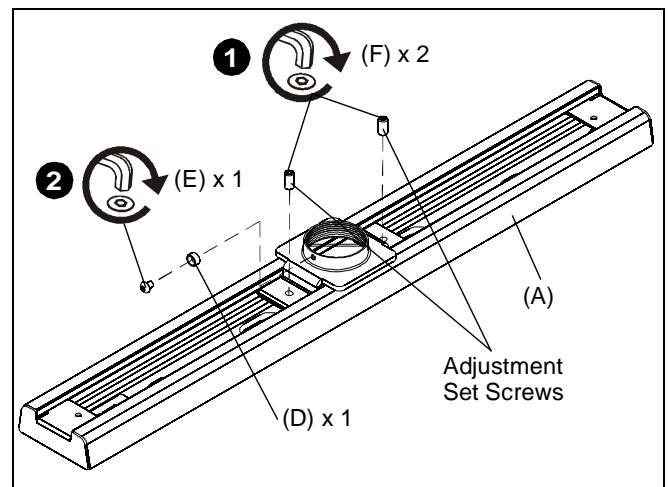

Figure 4
1. For increased security, remove two set screws from ceiling plate and replace with two 5/16-18 x 5/8" security set screws (F). Tighten with 5/32" security hex wrench (H). (See Figure 4)
2. For additional security, remove Phillips screw in threaded collar of ceiling plate and replace with one 10-24 x 1/4" button head security cap screw (E) through security spinner (D). Tighten with 5/32" security hex wrench (H). (See Figure 4)
To adjust position of ceiling plate, loosen adjustment set screws, adjust plate to position, and tighten screws. (See Figure 4)